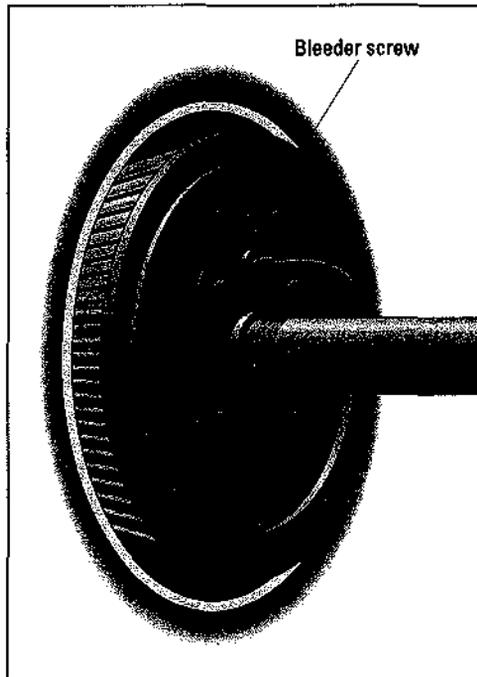

Figure 18-13:
1. **Behind each of your brakes is a little nozzle called a *brake bleeder screw* (see Figure 18-13).**